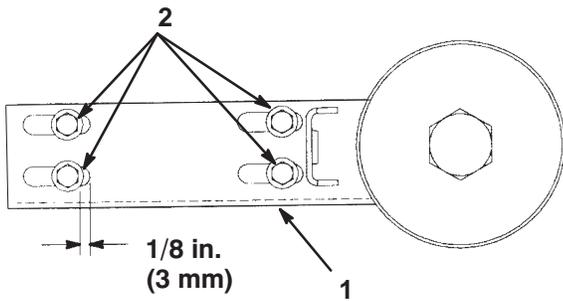
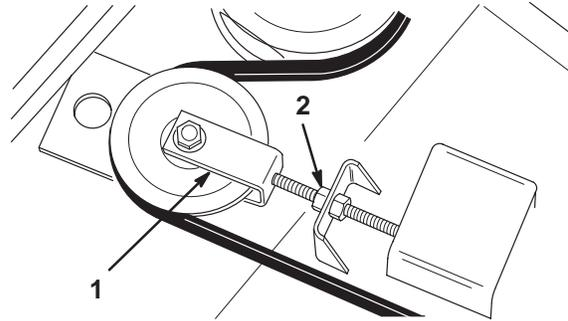

Figure 63
Figure 65
3. Note position of shoulder bolts in slots in tension plate. Optimum belt tension will be maintained when the flanges on the shoulder bolts are 1/8 in. (3 mm) from the pulley ends of the slots (Fig. 63). If the shoulder bolt flanges are more than 3/8 in. (9 mm) from the pulley end of the slots, an adjustment should be made.
4. To adjust, loosen jam nuts (Fig. 65) and extend tension arm until the shoulder bolt flanges are within 1/8 in. (3 mm) of the pulley end of the slots (Fig. 63).
2. Loosen jam nuts securing tension plate until compression spring on idler assembly is relaxed (Fig. 65).
2. Remove deck covers and relieve belt tension on all belts (Fig. 65).